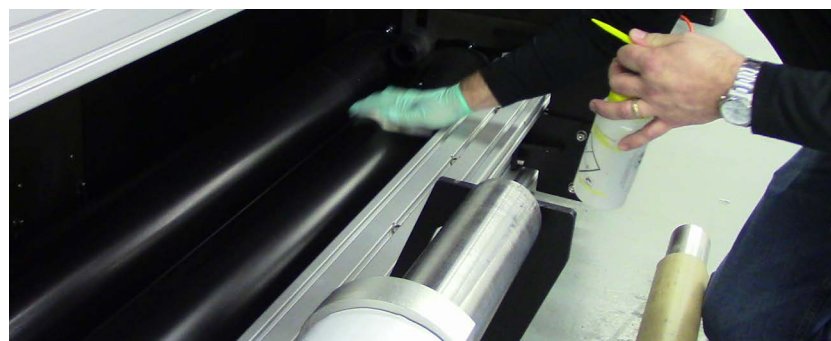

Figure 7-5 Rear Rollers
3. Manually rotate and clean: the metal press roller; the outside input feed roller; and the outside collector roller, Figure 7-5.